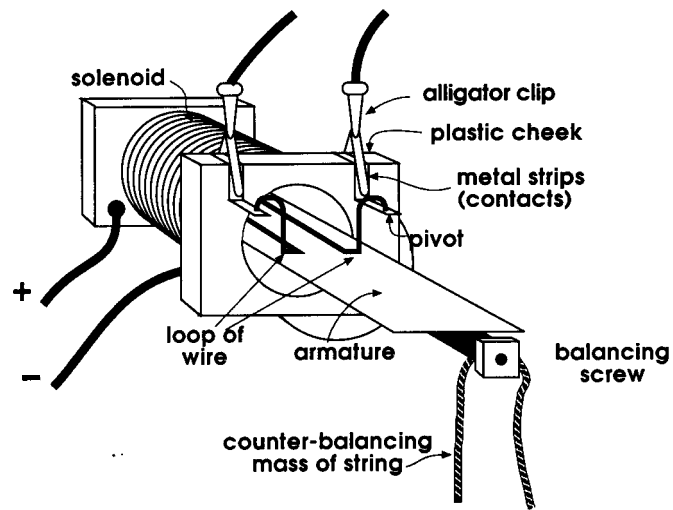

figure 1
- 1 Attach the metal strips/contacts to one end of the plastic cheek of the solenoid using the alligator clips. The contacts should slide into ready-made grooves in the outside of the cheek with the clips protruding from either side of the hole in the solenoid for the pivot points of the armature to swing freely on them (*see figure 1*) Put the armature in place, balancing on its pivoting points.